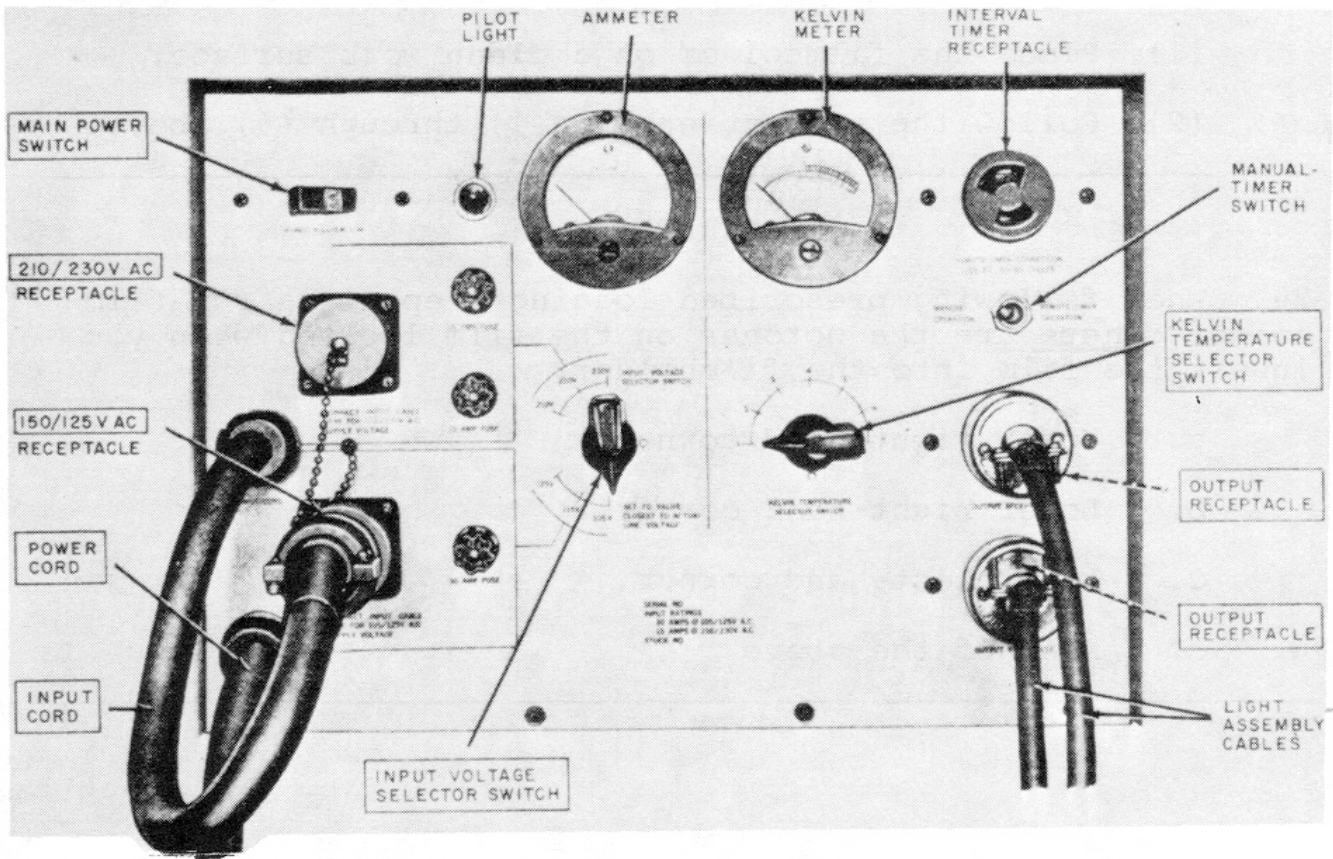

FIGURE 10. Converter, showing location of controls, indicators, and connectors, front view.
a. Converter (figure 10). Prepare the converter for operation as follows:
(1) Check to be sure that the MAIN POWER switch is set to OFF.
(2) Check to be sure that the POWER CORD is connected to the source of power and that the INPUT VOLTAGE SELECTOR switch is set to the position that most nearly matches the voltage of the power source.